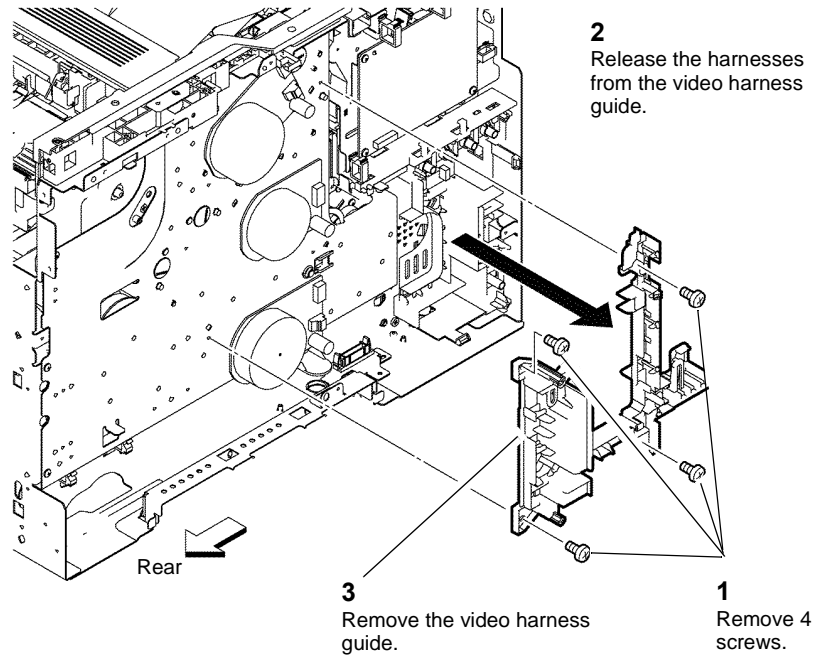

Figure 5 Video harness guide
6. Remove the video harness guide, Figure 5.